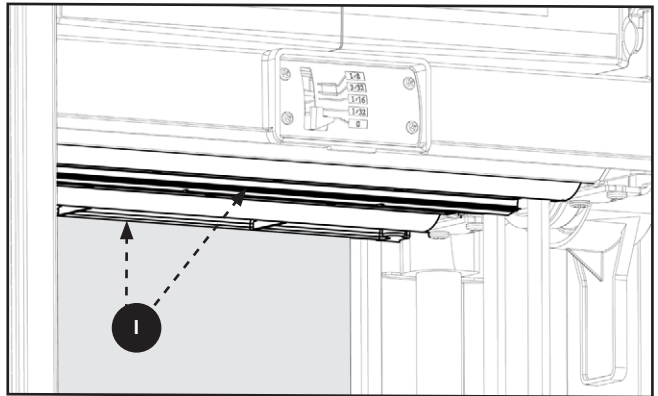

FIGURE 23
7. Take this time also to clean the rollers (I) Figure 23.